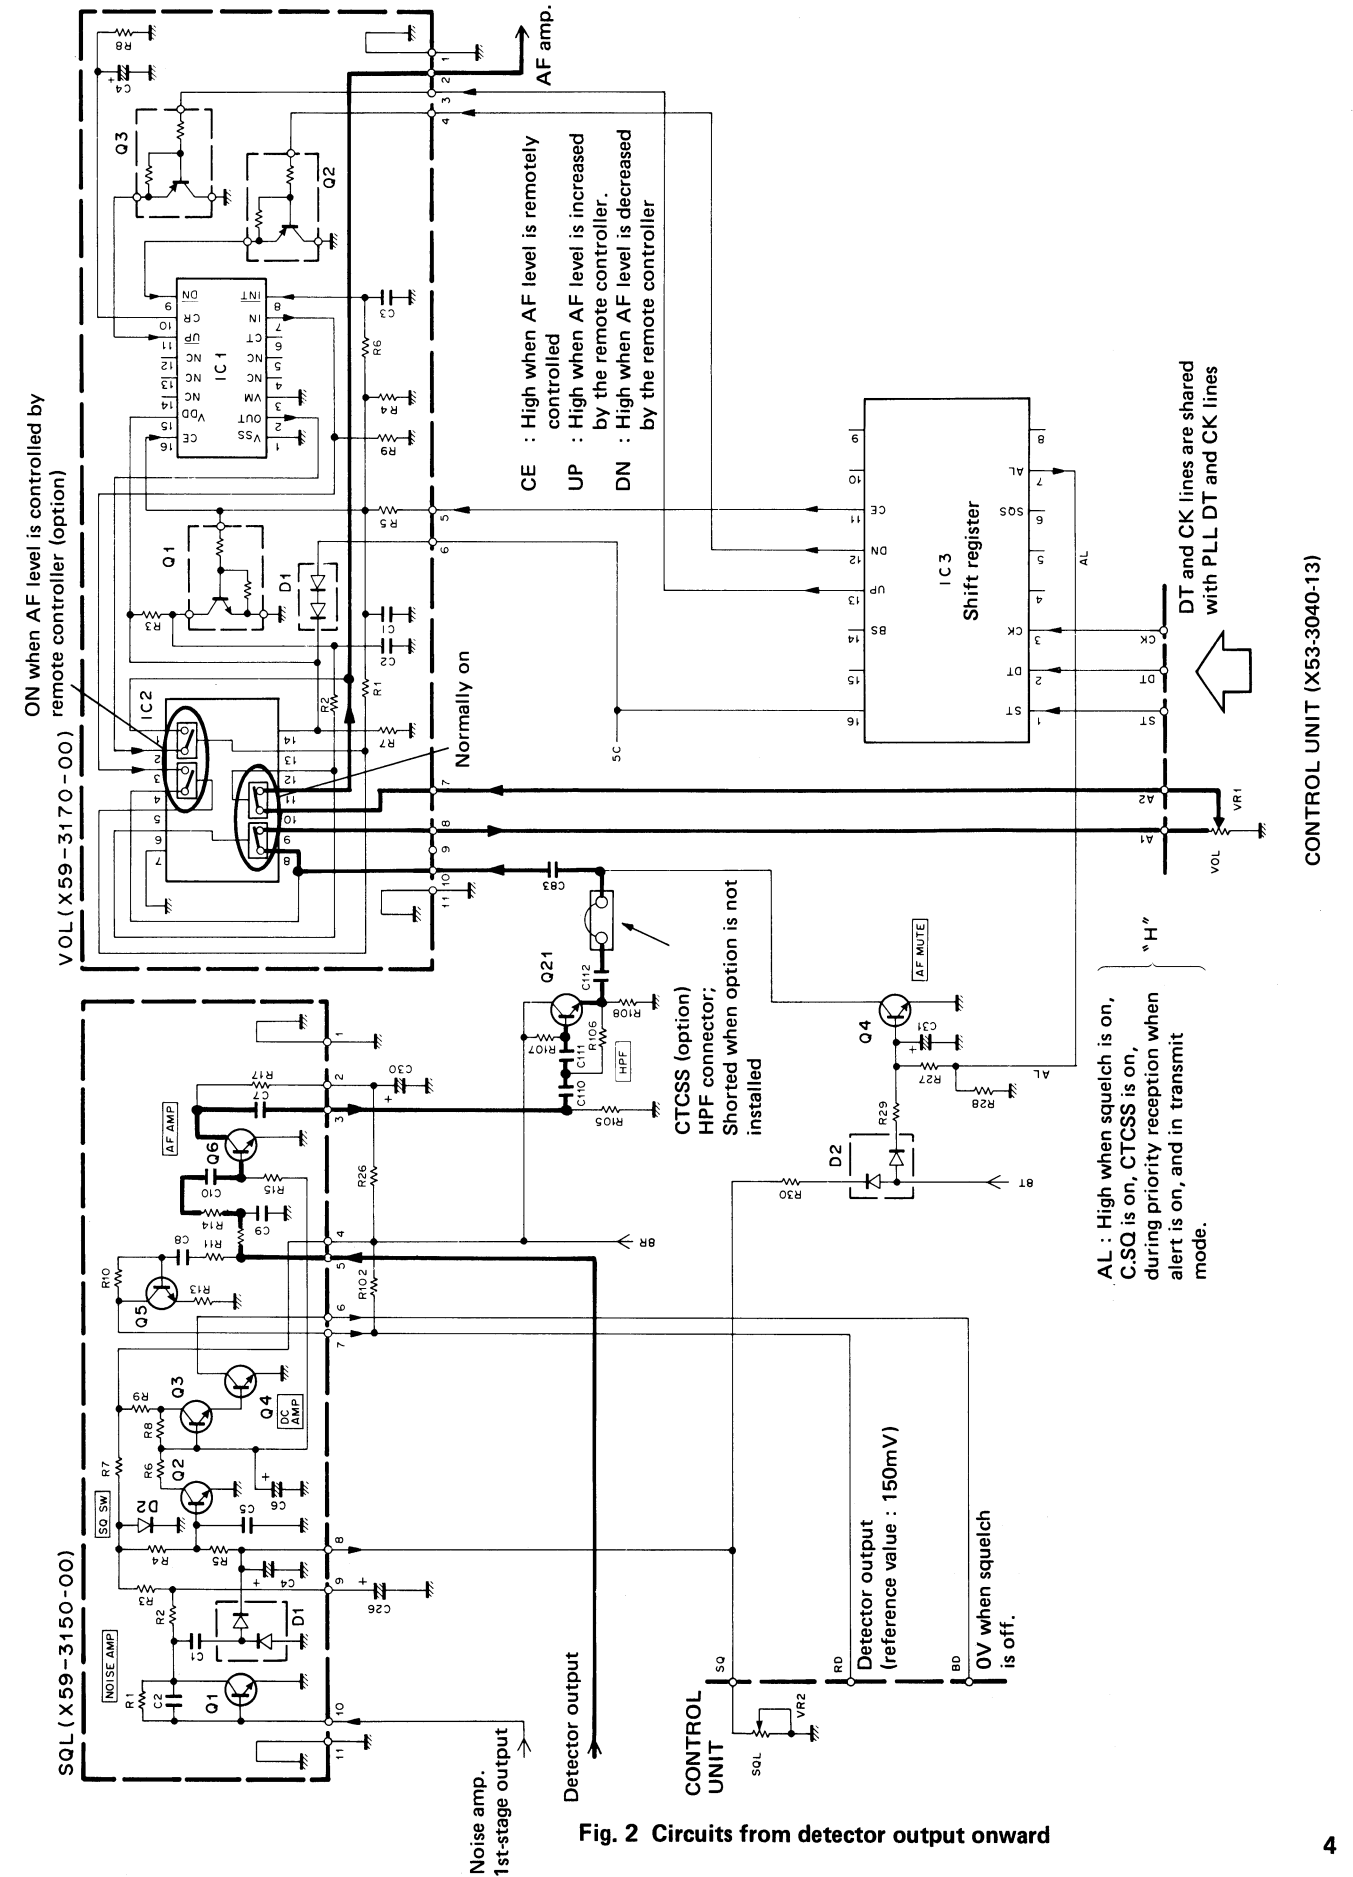

Fig. 2 Circuits from detector output onward
The first IF signal is amplified by Q3 : 2SC2714(Y) and fed to a special narrow-FM IC (TA7761F). Here the signal is mixed with the 30.370MHz frequency from the second local oscillator to produce the 455kHz second IF signal. This signal is sharpened by passing it through a six-element ceramic filter (CFW455F). The signal is then amplified by a five-stage limiting amplifier contained in IC1. This is followed by quadrature detection which is also performed by IC1. Undesirable high-frequency components are removed from the detected signal by an active low-pass filter. The signal then passes through the audio volume control, then is amplified by the audio power amplifier (IC4), and applied to the speaker. The circuit configuration from detection onward is shown in Fig. 2.